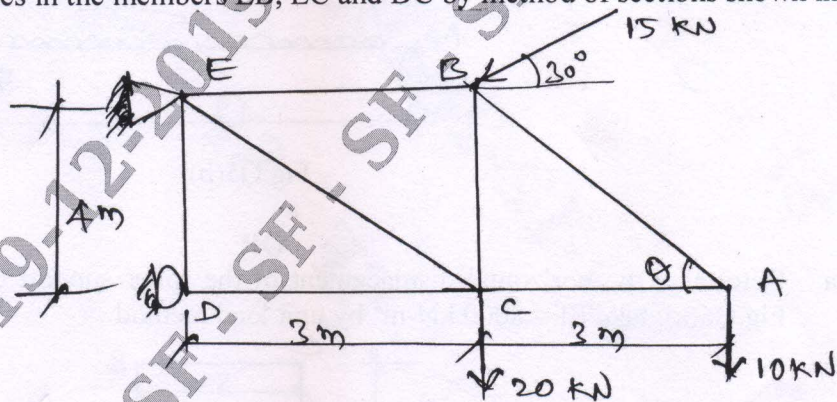

Fig.Q2(c)
- c. Find the forces in the members BB, EC and DC by method of sections shown in Fig.Q2(c).